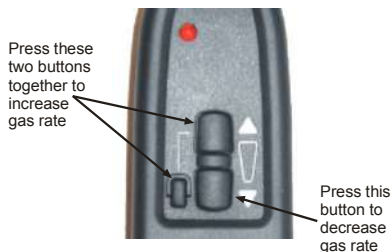

Figure 8 - Handset Operation
6. Using the HANDSET (as shown in **Figure 8**) press and hold **both the top and the small button together** until the main burner goes to full rate and clicking can be heard from the valve. During this process the main burner will ignite from the pilot.